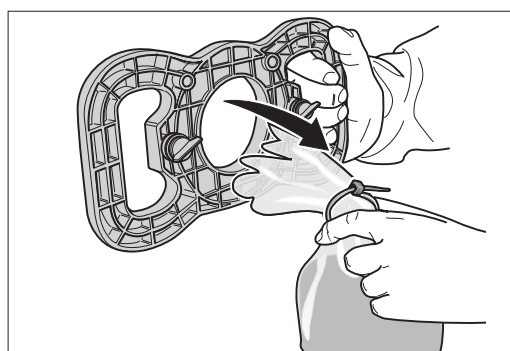
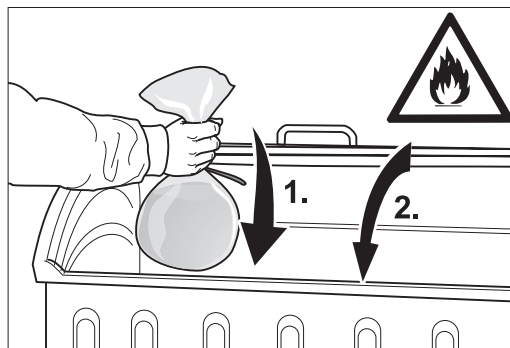

Fig. 23 Remove the waste bag from the emptying fixture.
Fig. 24 Throw the filled waste bag into a non-combustible container and keep this closed → **fire hazard!**
Close this container and always store it and the dust bag outdoors (Fig. 24)!
- 18 Remove the filled waste bag from the emptying fixture (Fig. 23) and place it in a non-combustible container (Fig. 24).